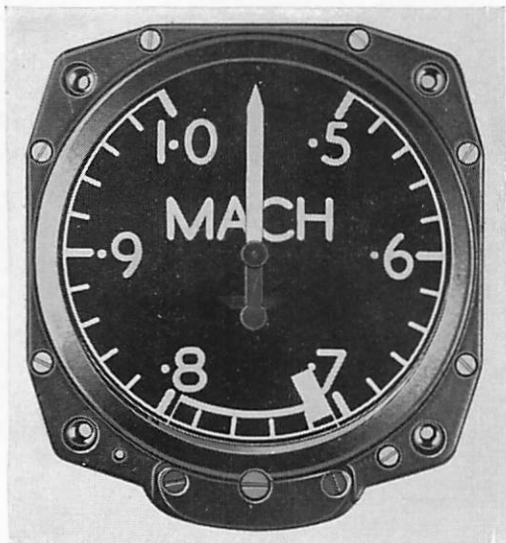

Fig. 3. Mk. 1B Machmeter.
7. The dial of the Mk. 1B (Fig. 3) has a different presentation since the critical portion of the Mk. 1A* scale has proved difficult to read in most aircraft owing to the cockpit coaming